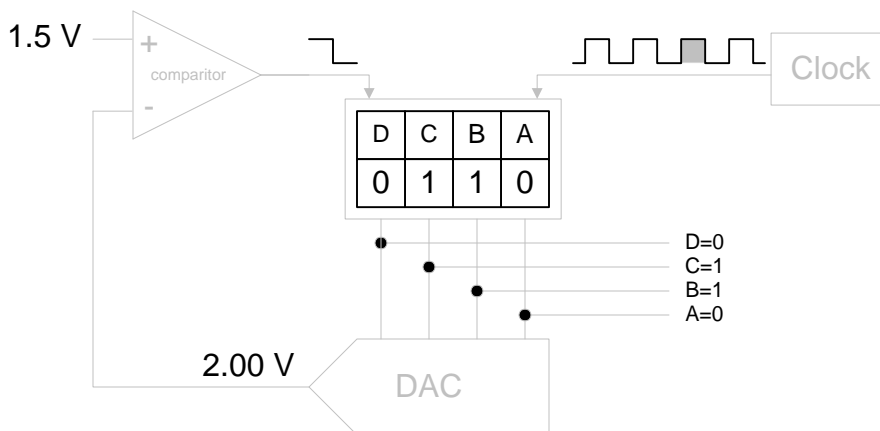

Figure 4.
Figure 4. shows the third step in the conversion cycle. With the third clock pulse, the B (2) bit is set to 1. Note, though, that the DAC now outputs 2.00V, not .667V as you might first expect. This is because the C and B bits are both set to 1, and giving a V_{out} of $1.33 + .67 = 2.00V$. Since this voltage is greater than 1.5 V, the comparator's output goes LOW, and the B bit is reset to 0.